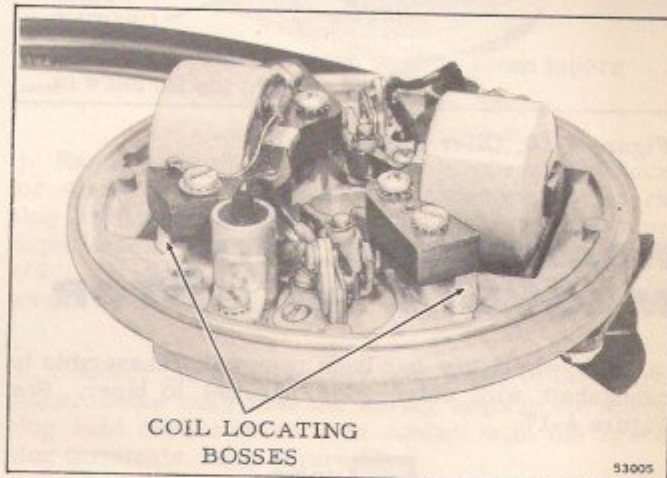

Figure 4-14. Coil Locating Bosses
- Refer to Figures 4-6, 4-7 and 4-16 for correct reassembly. Correct locating of the coil and lamination assemblies is governed by machined mounting surfaces on the armature plate. Coil lamination heels should be flush with machined surfaces. See Figure 4-14.